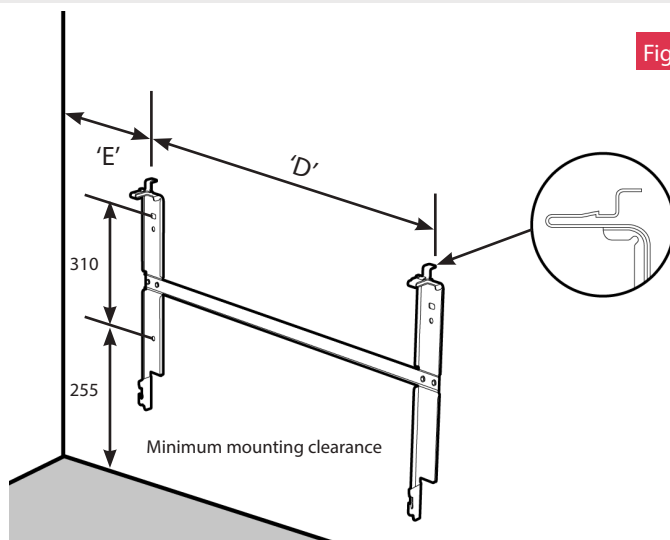

Fig. 2
1. Remove wall mounting bracket from the back of the heater by depressing the spring latch at the side of each bracket - see Fig. 2.
- 3.2. To connect via Dimplex Control app, install the RF Module. To do this, unhinge the heater from the wall using the clips shown in Fig.2 and locate the battery module. Slide the catch and pull module from the controls. Replace the battery tray with the RFM. Power on the product and follow instructions in the app.